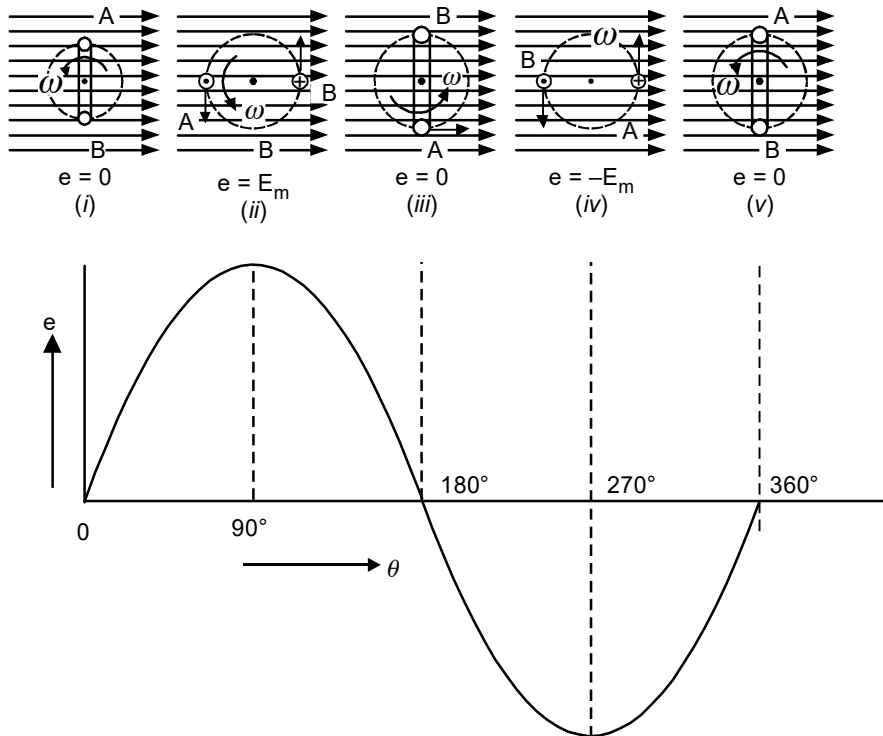

Fig. 2.5: EMF induced in a coil at various instants
For simplicity, consider a coil placed in a uniform magnetic field to which a load (LM) is connected through brushes and slip rings as shown in fig.2.3. When it is rotated in anticlockwise direction at a constant angular velocity of ω radians per second, an e.m.f. is induced in the coil sides. The cross-sectional view of the coil and its different positions at different instants are shown in fig.2.5.
The wave shape of the e.m.f. induced in the coil is also shown in fig.2.5.